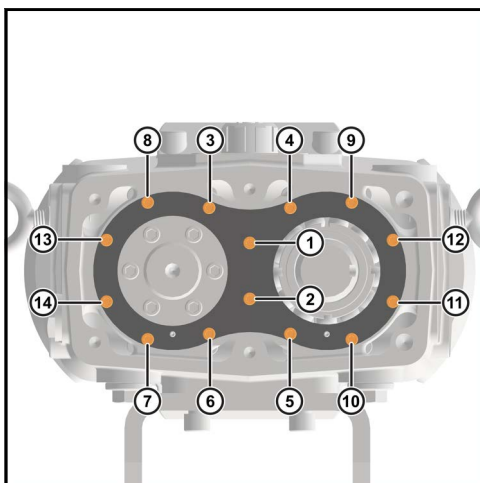

Figure 311 -Install and torque the rear bearing retainer bolts
9. Install and torque the rear bearing retainer bolts to the stated specification as shown in Figure 311.